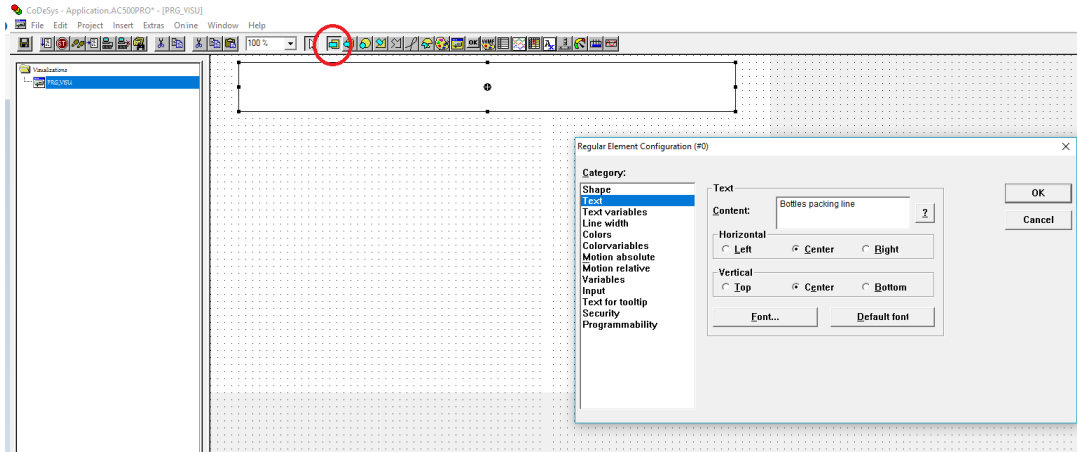

Figure 3: Adding Text
- In the **Text** Category type the Application Name: "Bottles packing line". Select suitable font and its size (see Fig. 3).